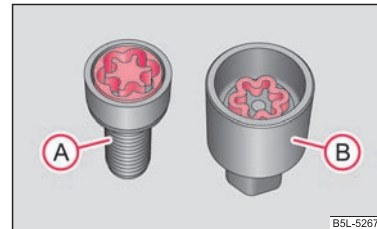

Fig. 183 Illustration image: Safety wheel bolt with adapter
- Insert the adapter **(B)** with its toothed side into the inner tooting of the head of the safety wheel bolt **(A)** ⇒ fig. 183.